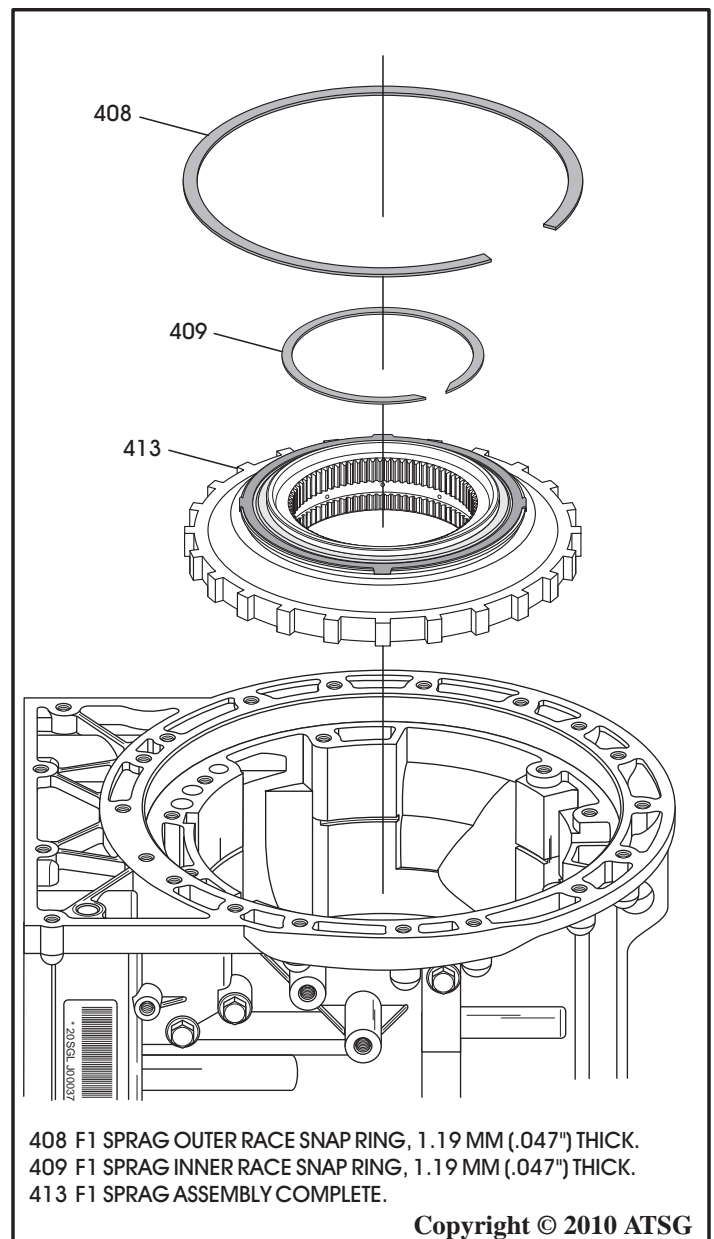

Figure 208
18. Install completed F1 sprag assembly, as shown in Figure 208.
19. Install outer race to case snap ring, as shown in Figure 208, and ensure it is fully seated in case.
20. Install inner race to planetary carrier snap ring, as shown in Figure 208, and ensure it is fully seated in planetary carrier.